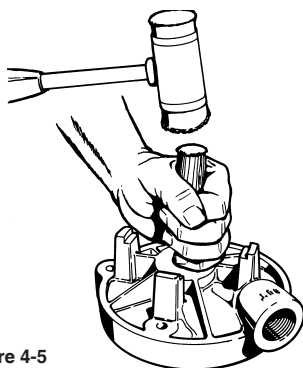

Figure 4-5
9. Before the motor bracket (#1) can be removed, the four (4) "O" rings (#8), located on the upper left and right studs must be removed.
10. Remove the Seal Stationary Seat (#125). Refer to Figure 4-5.